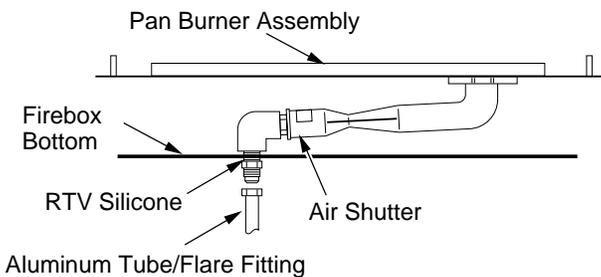
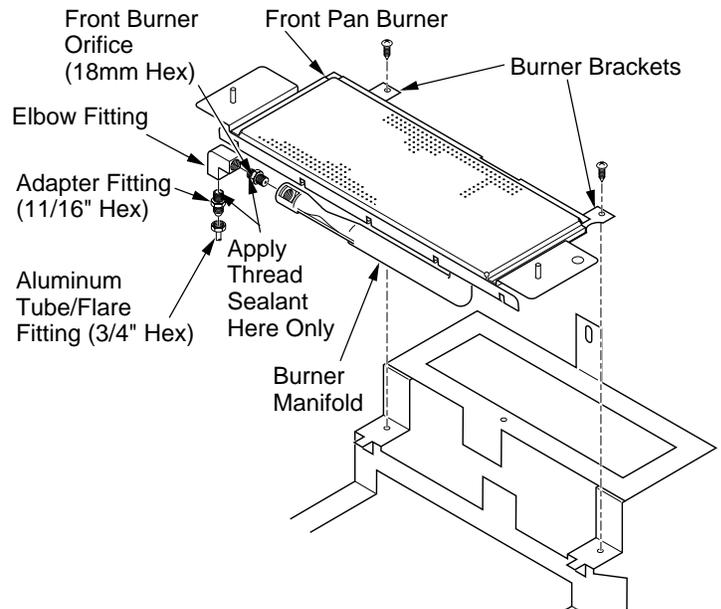

Figure 3 - Removing/Applying RTV Silicone and Locating Air Shutter
Figure 4 - Removing/Replacing Pan Burner Orifice (Tube Burner Not Shown for Clarity)
1. Inside the control compartment under firebox, locate aluminum tube with flare fitting and adapter fitting on the left side. Loosen flare fitting and disconnect aluminum tube from adapter fitting. Use a 3/4" open end wrench (see Figure 3).
2. Carefully cut away the RTV silicone from the adapter fitting where it passes through the firebox bottom (see Figure 3). Remove adapter fitting from elbow fitting by turning counterclockwise. Use an 11/16" open end wrench.
3. Inside firebox, locate two small burner hold down brackets on rear of pan burner. Remove screws with phillips screwdriver and carefully lift pan burner assembly up and out of firebox (Do not force the assembly during removal.) See Figure 4.
4. Remove elbow fitting with orifice from burner manifold by turning counterclockwise. Use a 3/4" open end wrench. Remove LP orifice from elbow fitting. Apply a light amount of propane/LP resistant sealant to short threaded end of NG orifice (206) supplied in kit. Thread NG orifice into elbow.
6. Locate air shutter at end of burner manifold (see Figure 3). Loosen screw and adjust air shutter to 3/16" open position. Retighten screw.
2. Using screws removed in step 3 of *Pan Burner Orifice Conversion*, page 2, reattach two small burner hold down brackets on rear of pan burner to grate base. See Figure 4, page 2.
3. Apply RTV silicone to adapter fitting where it passes through the firebox bottom (see Figure 3, page 2).